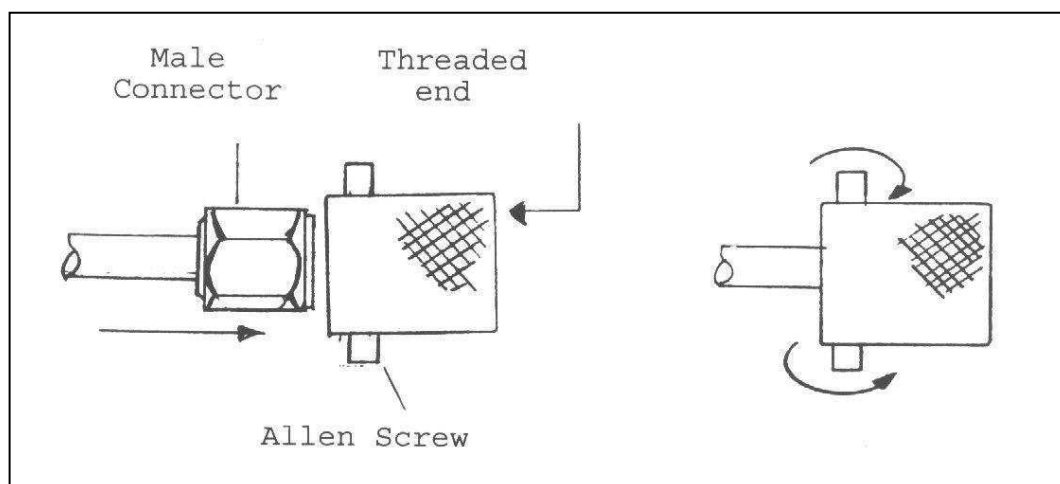

Figure 6: Assembly of the Connector Fastener for 1.85, 2.4, 2.9 & 3.5mm
3. Slide the connector fastener over the male connector of the other measurement cable up to the end (Figure 6) and fasten the 2 Allen screws until their heads touch the external surface of the fastener.
The 2 Allen screws are not supposed to touch the hexagonal body of the male connectors but reach behind it, so the fastener can turn freely. A simple check for this is the final sitting of their heads on the fastener as described above. These Allen screws should normally be screwed using the fingers, not an Allen key (Figure 6).